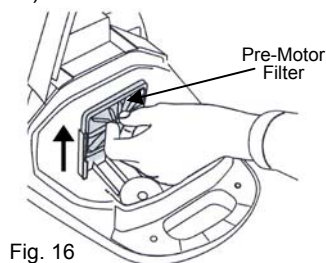

Fig. 16
This is a rinseable filter but should be replaced every six (6) months. Never operate the vacuum without **ALL** the filters in place. To remove, open the dust bag compartment cover and pull the pre-motor assembly out of the vacuum. Remove the filter from the filter assembly. Rinse in lukewarm water and let it air dry completely for 24 hours. Do not use a washing machine to rinse the filter. Do not use a hair dryer to dry it. Air dry only. When the pre-motor filter is completely dry, insert it in the filter assembly and replace it into the vacuum. (Fig. 16)